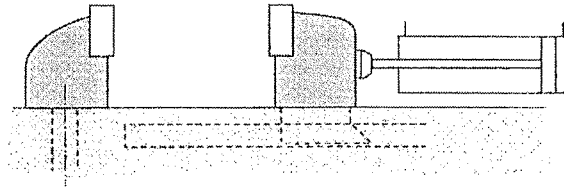

Figure Q4
- c) Figure Q4 shows a vice used in a drilling operation, where the workpiece must be securely clamped during machining. The vice is to be operated pneumatically by a double-acting